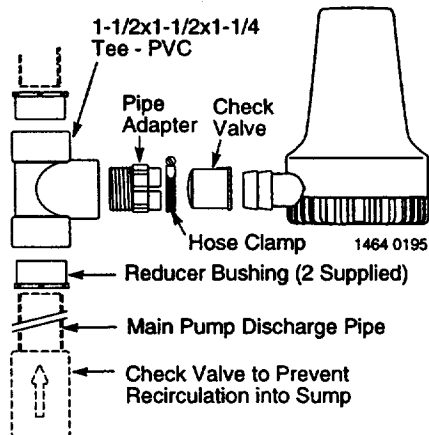

Figure 2B – Installation Diagram
6. Thread adapter into tee (Figure 2B). When installed, molded-in 'up' should be on top.